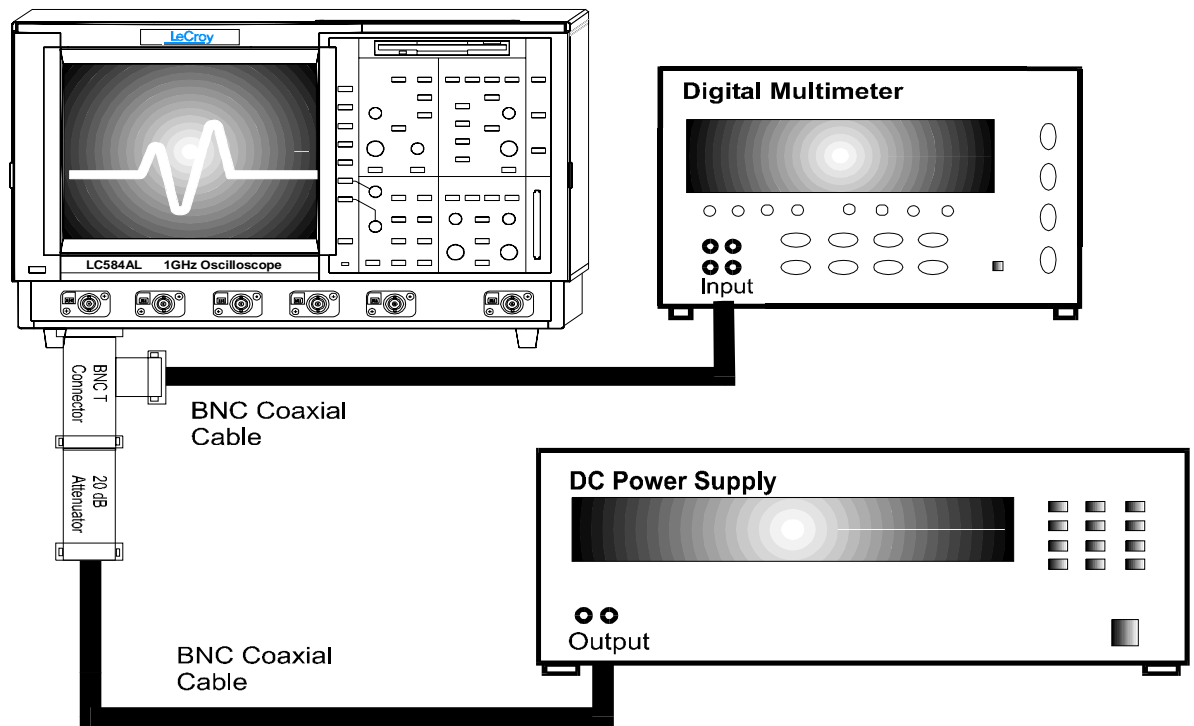

Figure 5-2 : DC 50Ω Accuracy Equipment Setup for 50 and 100 mV/div
- For the sensitivities : **50 mV and 100 mV/div**, connect the test equipment as shown in Figure 5-2.